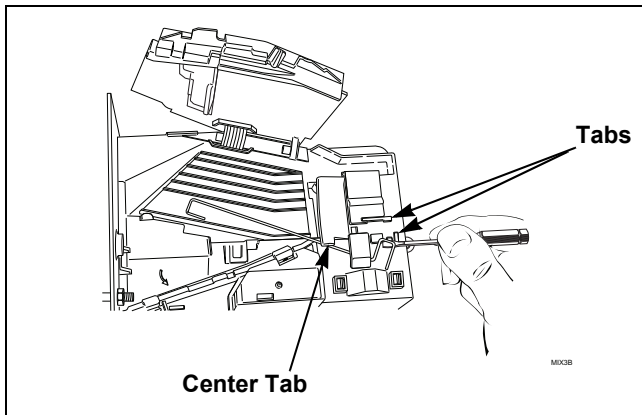

Figure 15
6. Rotate spring clockwise, 40 to 60 degrees, until it is free from right tabs. Refer to *Figure 15*.